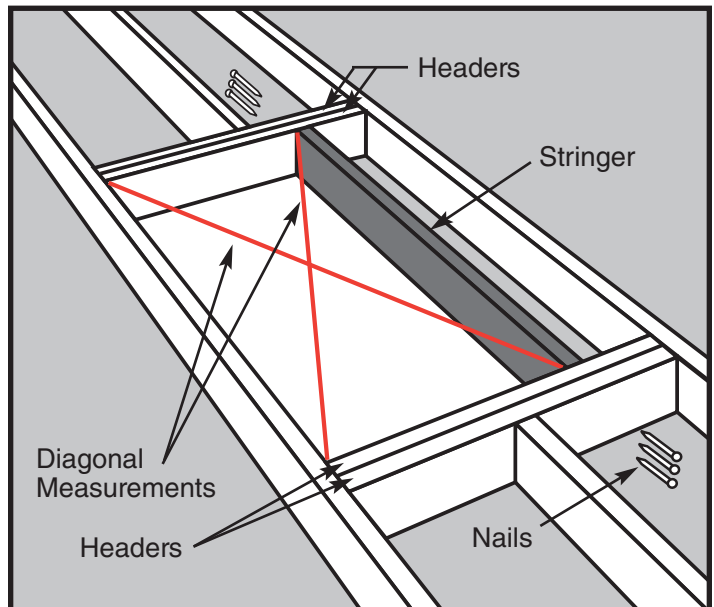

Figure 18
- STEP 4.** Position the stringer(s) along the unframed side(s) of your location (See Figure 18). Check that the inside dimensions of the frame are 22-1/2" x 54" (AH2210 and AE2210) or 25" x 54" (AH2510).
- STEP 5.** To attach the stringer(s) to the headers, use nails that are long enough to go through both headers and into the stringer at least one inch. Square the stringer(s) to the headers at one end and drive (3) 16d nails through the headers and into the stringer. Check for squareness, then nail the other end. Check the rough opening for squareness by measuring across the diagonals. **The two measurements should be within 1/8" to be considered square** (See Figure 18).